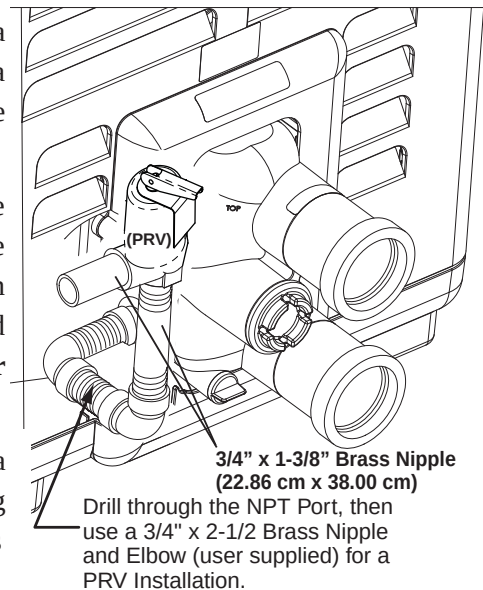

Figure 34.
The relief pressure of the valve **MUST NOT EXCEED 50 PSI**. The relief valve must be installed vertically. To install the valve, use a 3/4" x 3-1/2" brass nipple at the manifold and two (2) brass elbows and nipples (supplied), as shown in Figure 34. No valve is allowed to be placed between the manifold adapter and the relief valve. **Note: Be sure to use threaded seal tape (PTFE) or equivalent, on all treaded metal pipe connections.**
To avoid water damage or scalding from operation of the relief valve, install a drain pipe in the outlet of the pressure relief valve that will direct water discharging from the valve to a safe place for disposal. **DO NOT** install any reducing couplings or valves in the drain pipe. The drain pipe must be installed as shown in Fig. 34 to allow complete drainage from the valve and drain line.